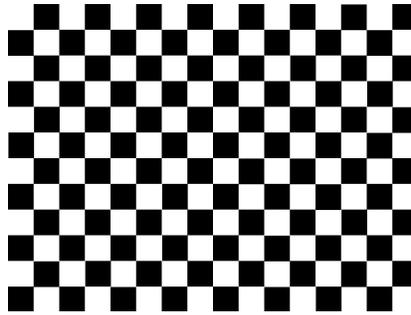

Figure 10. Example of Checkerboard Test Pattern
14. As noted in Table 4, the colors for the checkerboard pattern are specified using both the foreground and background colors. The foreground color is used for one of the checkers, and the background color is used for the alternating checker. As noted in Table 5, the user specifies the number of horizontal checkers and the number of vertical checkers. For this pattern, the system automatically determines the checker size in each direction based on the number of checkers and the size of the display (DMD). For example, if the number of horizontal checkers = 4, the number of vertical checkers = 4, and the DMD resolution is 1280x720, the size of the horizontal checkers is 320 pixels, and the size of the vertical checkers is 180 pixels (1280 pixels / 4 checkers = 320 pixels: 720 pixels / 4 checkers = 180 pixels). An example of a checkerboard pattern (16 checkers by 12 checkers) is shown in Figure 10.